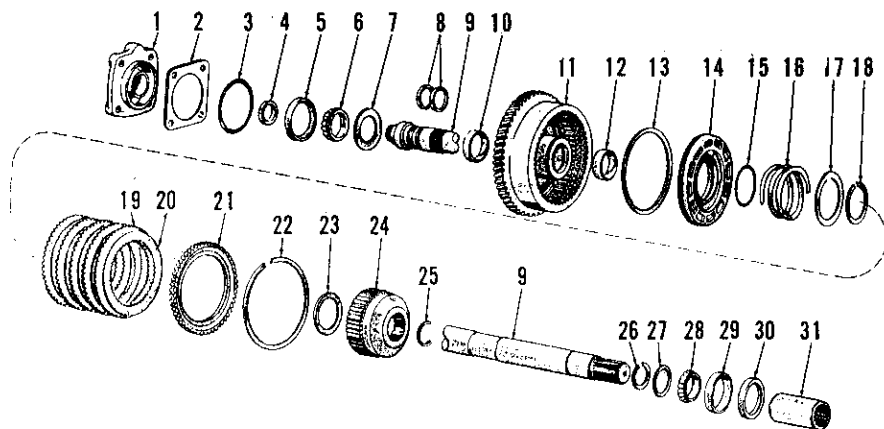

Fig. 305—Exploded view of single speed PTO clutch and shaft assembly. Refer to Fig. 306 for 2-speed PTO clutch.
Fig. 306—Exploded view of two-speed PTO clutch and shaft assemblies. Lower countershaft (29A) is for model 4000; other models use shaft (29). Refer to Fig. 305 for single speed PTO.
To remove the single speed PTO clutch, first remove the bearing cone and roller (28—Fig. 305), washer (27) and snap ring (26) from rear end of shaft (9). Using a small punch or screwdriver, drive the snap ring (25) out of groove on shaft behind the splined clutch hub (24). Then pull shaft forward out of clutch assembly and lift the clutch assembly from transmission.
Bushings (10 and 12—Fig. 305 or Fig. 306) in clutch housing are renewable. Inside diameter of new front bushing is 1.874-1.875; inside diameter of new rear bushing is 1.624-1.625. Bushings are pre-sized and reaming should not be necessary if carefully installed. For servicing remainder of clutch assembly, refer to paragraph 270.
After clutch is reassembled, stick the thrust washer (23—Fig. 305 or Fig. 306) in recess in front side of splined hub (24) of PTO clutch using light film
On single speed PTO, install thrust washer (7—Fig. 305) on front end of PTO shaft and press front bearing cone and roller (6) tightly against washer. Install two sealing rings (8) from rear end of shaft, lubricate the rings with petroleum jelly and align ring end gaps. Holding the splined hub in clutch assembly, place clutch in transmission and insert shaft through clutch with sealing ring end gaps at top of shaft. When thrust washer (7) is against clutch housing, drive the snap ring (25) around shaft into groove at rear of splined hub. Install the snap ring (26), washer (27) and bearing cone and roller (28) on rear end of shaft.
278. PTO SHAFT END PLAY (BEARING PRELOAD). End play (bearing preload) of the power take-off clutch and shaft unit is controlled by varying the thickness of the shim stack (2—Fig. 305 or 306) between the transmission front cover (pump adapter plate) and the PTO front bearing retainer (1). Shims are available in thicknesses of 0.002, 0.003, 0.010 and 0.030. Check bearing preload as follows: